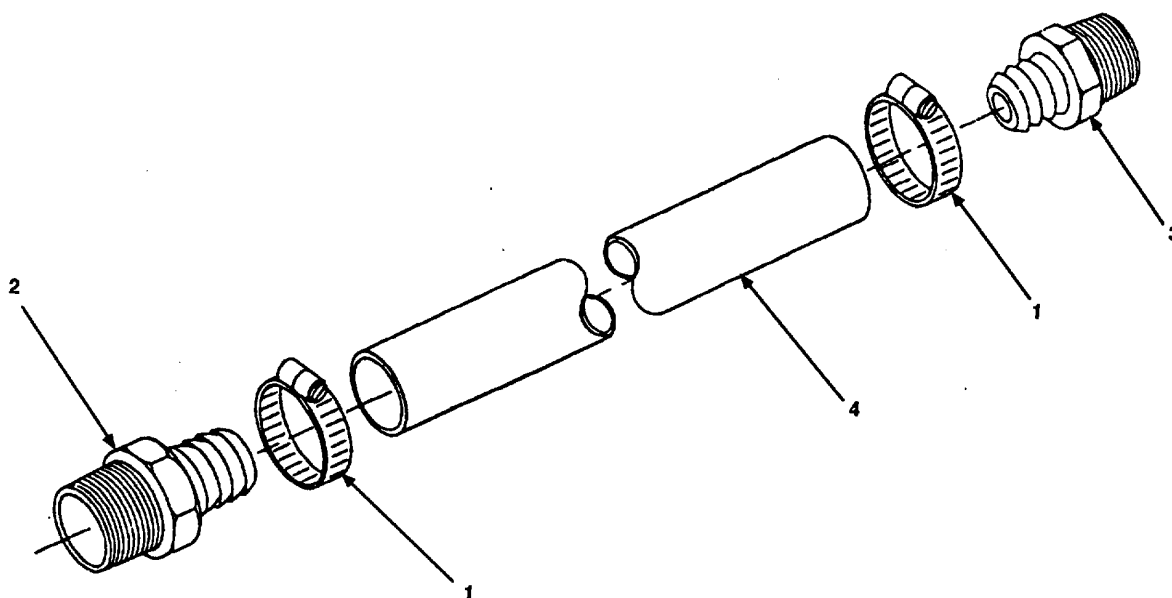

Figure 4-15. Outlet Hose Assembly Maintenance.
- a. Loosen two hose clamps (Figure 4-15, 1) and slide them back from hose connectors (2 and 3).
- b. Remove outlet hose (4) from hose connectors (2 and 3).
- c. Remove two hose clamps (1) from outlet hose (4).
- a. Inspect two hose clamps (1) for corrosion, damage, and missing components.
- c. Inspect outlet hose (4) for holes, cracks, slices, tears, or damage.